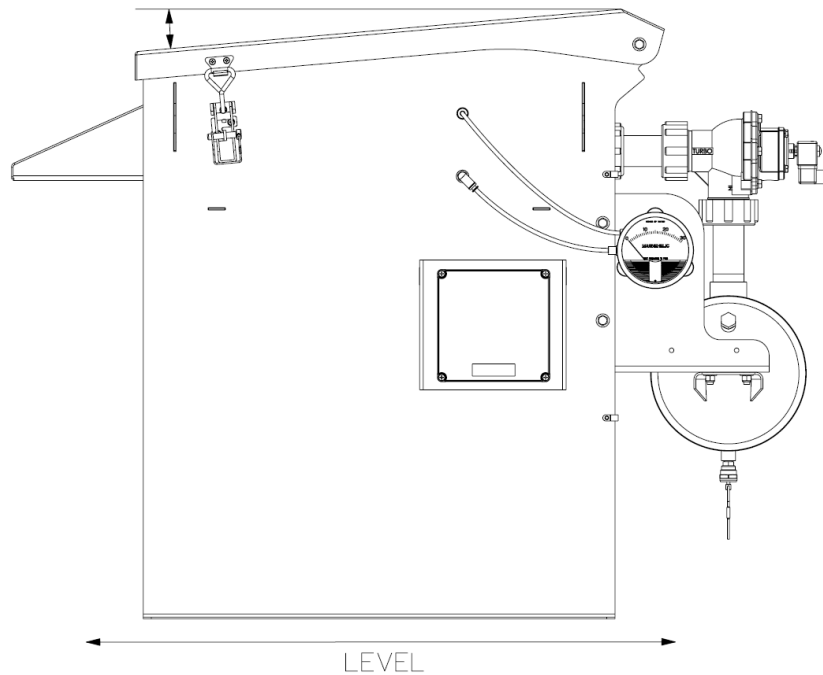

**Figure 5-1: 500 cfm model dimensions**
4. Create an opening in the storage structure to allow for the mounting of the DBV. Reference **Figure 5-1** and **Figure 5-2** on the following page for the reference dimensions of the DBV mounting surface. All dimensions shown are in inches.
**NOTE:** If a mounting adapter must be used to ensure the DBV is level when installed, the dimensions provided in **Figure 5-1** and **Figure 5-2** will need to be adjusted accordingly. Use the lower mounting flanges once they have been fit and cut, as described in **Step 9**, to achieve the correct dimensions for the mounting dimensions.